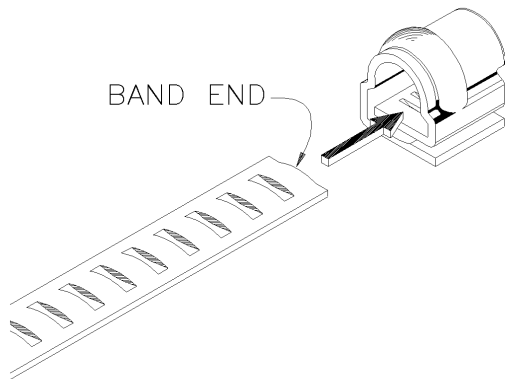
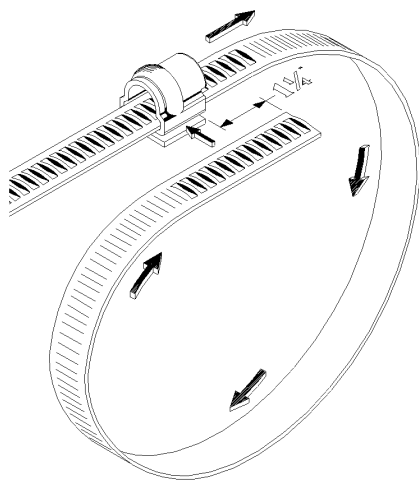

Figure 1
Figure 2
- A. Before cutting band, insert roll band end through housing front entrance (Figure 1). Pull band out through back (Figure 2). Allow ample band length.
Insert band end into side entrance of housing (Figure 2) forming an oversized diameter clamp. For best clamping results on large diameter clamps, allow approximately 1-1/4" band length past back of housing (Figure 2). (Less for smaller diameters).